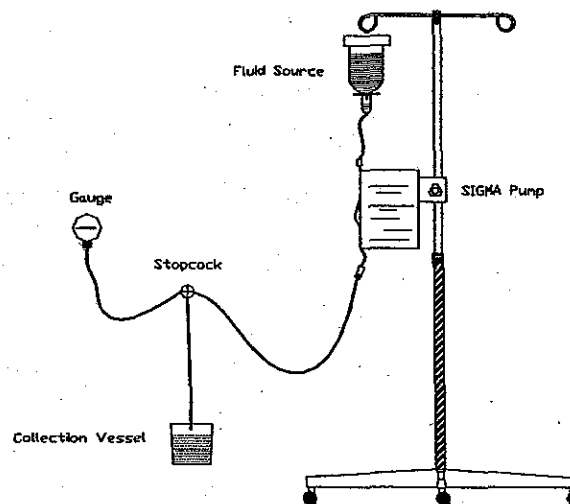

Figure 8
- 2.1 Set the test tube equipment up according to the illustration below (figure 8).